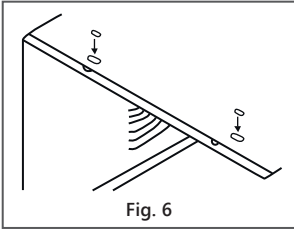

Fig. 6
9. Add two foam inserts to holes in top of cabinet where shipping screws were removed from (see Fig. 6).
1. Attach foam gasket to top angle above holes as shown in Fig. 6.